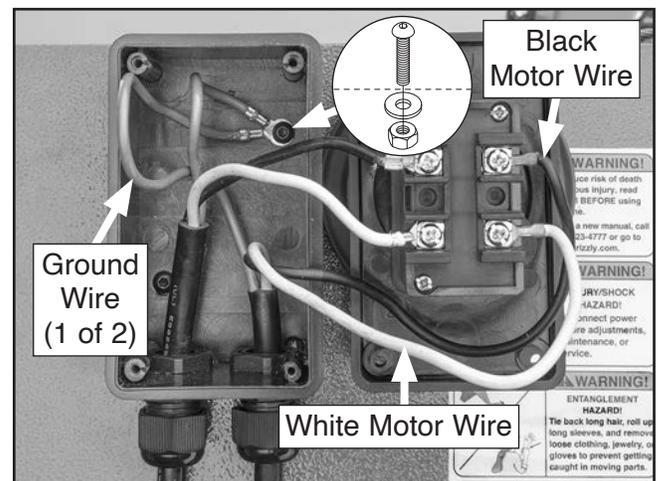

Figure 52. Motor cord wires correctly connected.
- 60. Use remaining M4-.7 x 20 button head cap screw, #10 flat washer, and M4-.7 hex nut to attach ON/OFF switch box to switch panel and ground both green wires against switch box (see **Figure 52**).
- 61. Connect black motor wire to A1 terminal of ON/OFF switch (see **Figure 52**).
- 62. Connect white motor wire to A3 terminal of ON/OFF switch (see **Figure 52**).